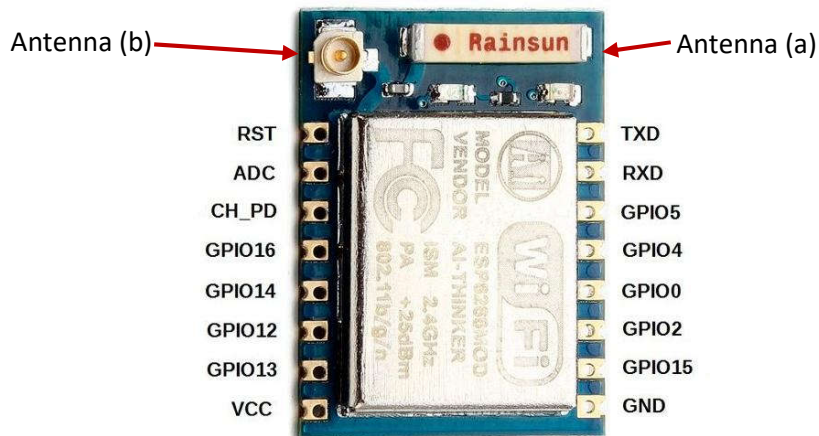

Figure 2: ESP8266-07 Pinout and Commonly Available Module.
Fig. 2 shows the ESP8266-07 breakout model, which adds two important hardware facilities regarding the ESP8266-01:
- Two alternative physical antennas: a ceramic one, identified as (a) in Fig. 2, and with which the breakout is completely functional, and a connector to an external antenna, identified as (b) in Fig. 2, which usually improves Wi-Fi signal/reduces signal attenuation.